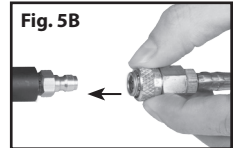

Fig. 5B
3. Attach the quick disconnect fitting from your filling equipment to the fill nipple (Fig. 5B). Note: Before filling, make sure both fittings have a secure connection.